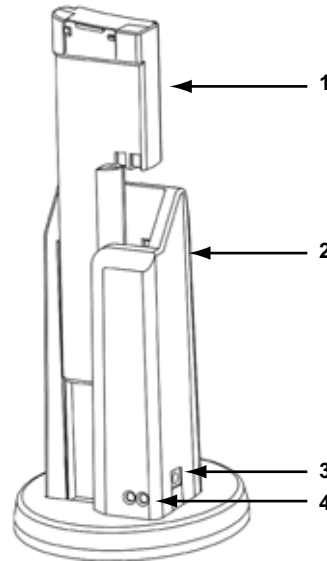

Figure 3-1 *Battery pack charge orientation*
2. Vertically insert the battery pack into the charger (Figure 3-1).